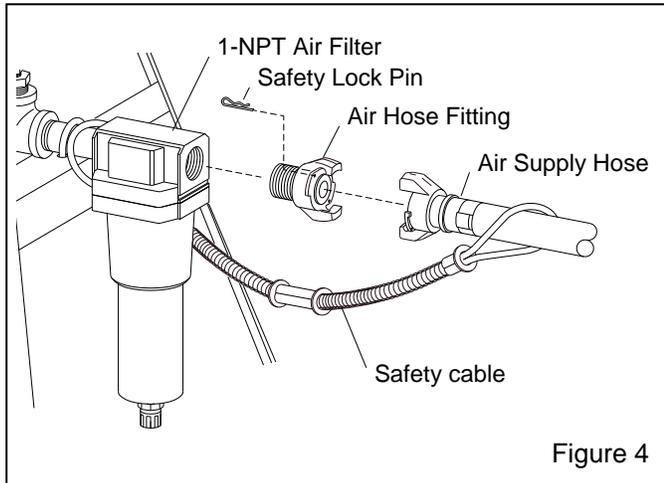

Figure 4
2.1.3 Apply thread sealant to the male threads of an air fitting that is compatible with the air supply hose fitting, as noted in Paragraph 2.1.2, and install it onto the 1-NPT air filter, as shown in Figure 4. Note that the style of connection shown is for reference only.